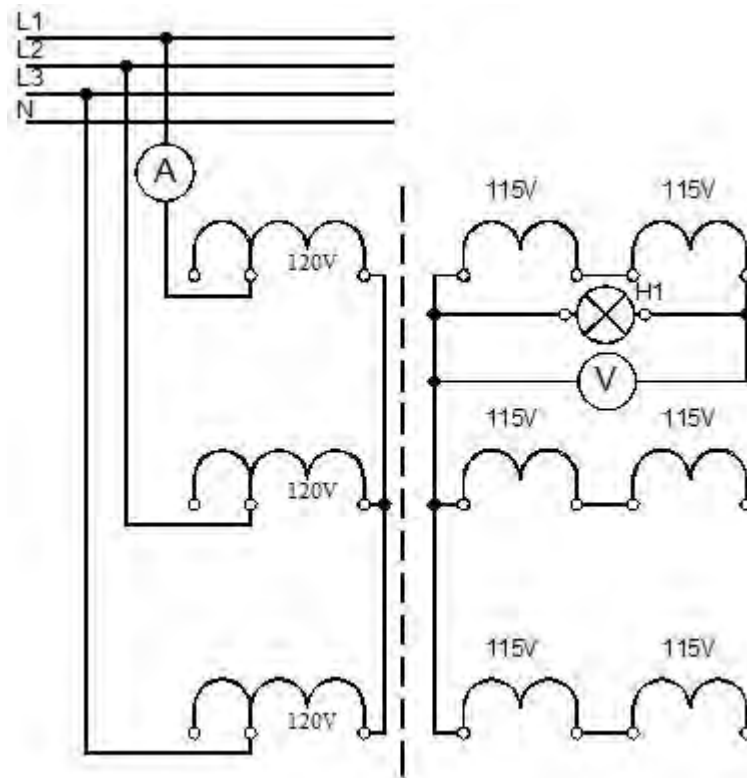

Figure 7:
1. Wire up the circuit in accordance with the set-up and wiring diagram of Figure 7.